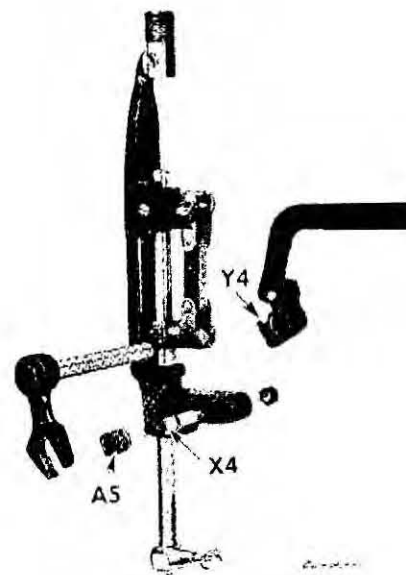

Fig. 68. Exploded View of
3. Loosen clamp screw **Y4** and withdraw needle vibrator lever fork completely from slide bushing shown in exploded view in Fig. 68.
5. Press holder toward hand wheel and insert eccentric stud **X4, Fig. 68** into needle bar holder. Then place slide bushing on eccentric stud, setting shoulder of flat sides toward needle bar holder.
6. Simultaneously place fork over the two flat sides of bushing **A5, Fig. 68** and insert lever end of fork into clamp at **Y4, Fig. 68**. Add shim of .003" between pitman crank and fork bushing. Then tighten screw **Y4** and remove shim.